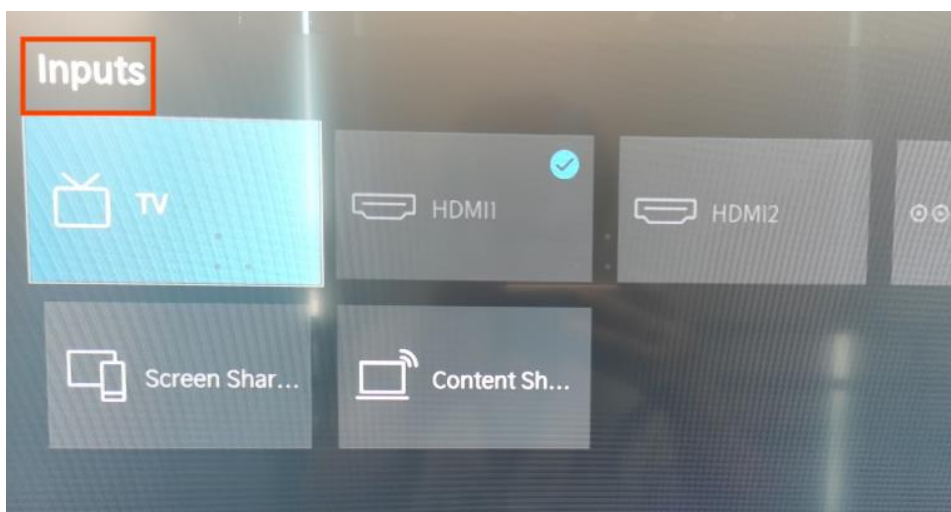

Figure-1
2. Press **INPUT** button to select any one source and press **≡** button on the RC then call up “Menu” option. Figure-1